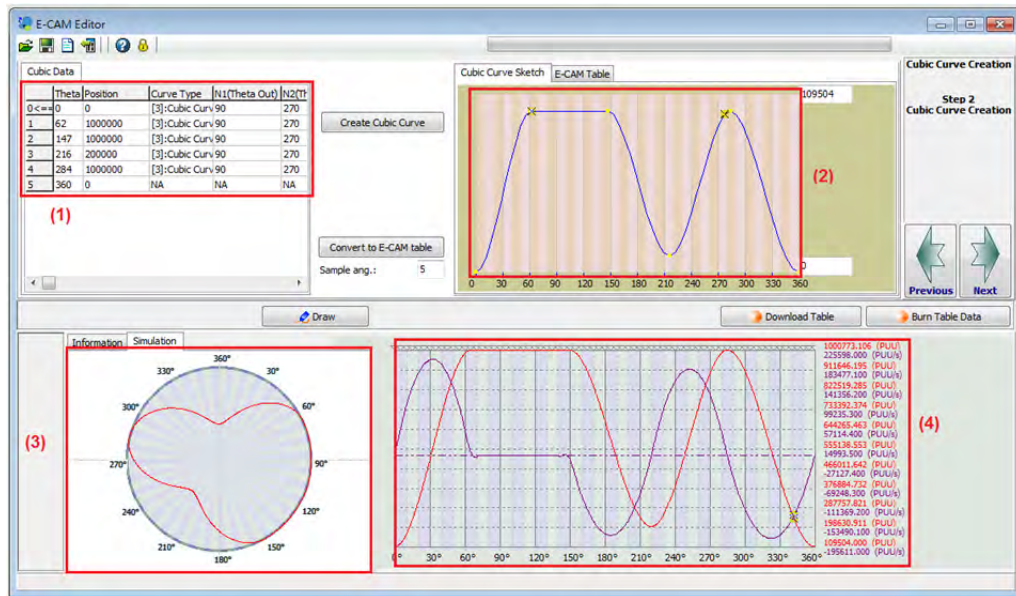

Figure 2.38 Screen of Cubic Curve Creation
Figure 2.38 shows the screen of *Cubic Curve Creation*. Section (1) includes the angle of each point ( $0^{\circ}$ ~ $360^{\circ}$ ), *Position* (unit: PUU), *Curve Type* (constant line, constant acceleration, and cubic curve), *N1 Theta Out* (arriving angle), and *N2 Theta In* (departing angle). To modify the corresponding data of each point, users may drag the point in section (2) or by directly selecting or entering the value in section (1).